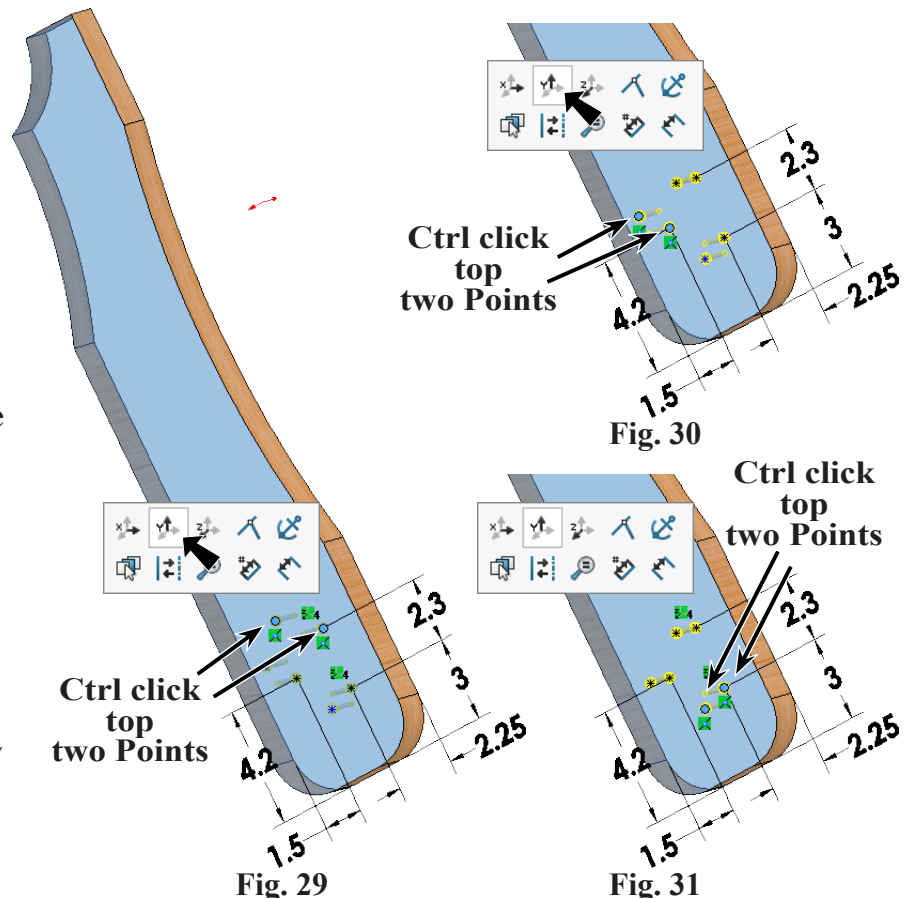

Fig. 29
Step 16. **Ctrl click Point on inside and Point on outside face** to select both Points. **Release Ctrl key** and click **Make Along Y**  on the context toolbar, **Fig. 29**.